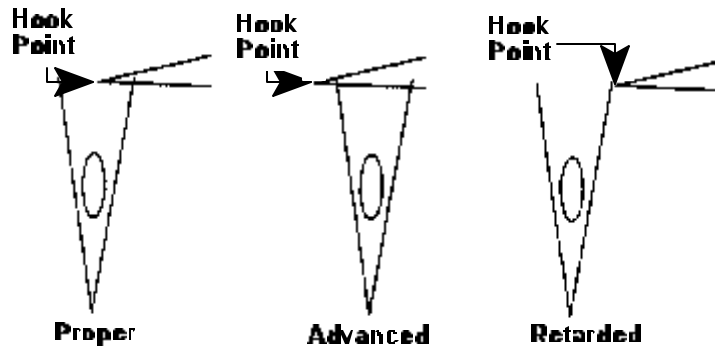

Figure 8
38. Adjust so tip of hook point is behind and in **middle of needle**. See Figure 8.